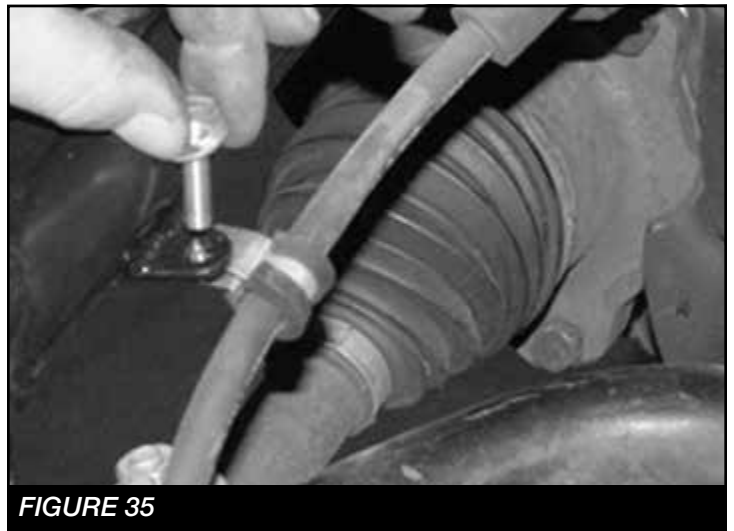

FIGURE 35
43. Attach the brakeline to the small tab on the control arm using the FTCLAMP, 1/4"-20 x 1" bolts, nuts and washers. **SEE FIGURE 35**